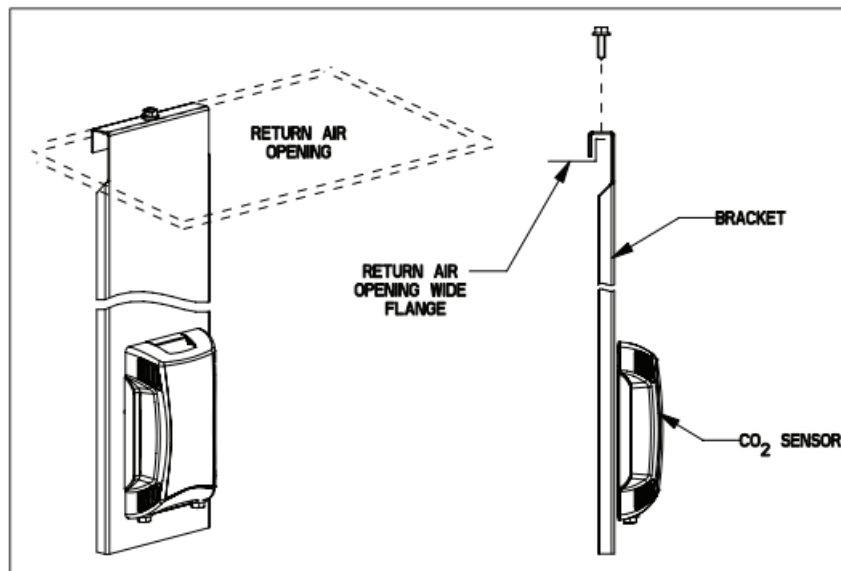

**Figure 2. Install CO2 Sensor Hinges**
5. Align notches on a baseplate with hinges on the back of the cover and pivot closed. Install two screws on the bottom of the sensor cover to secure the sensor cover to the baseplate as illustrated in figure 2.